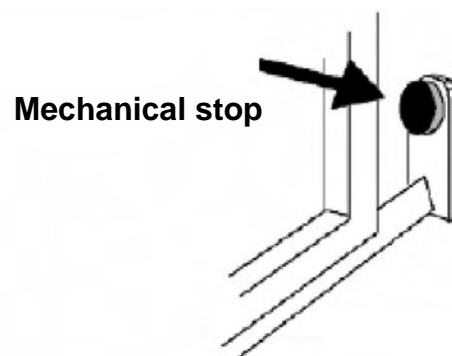
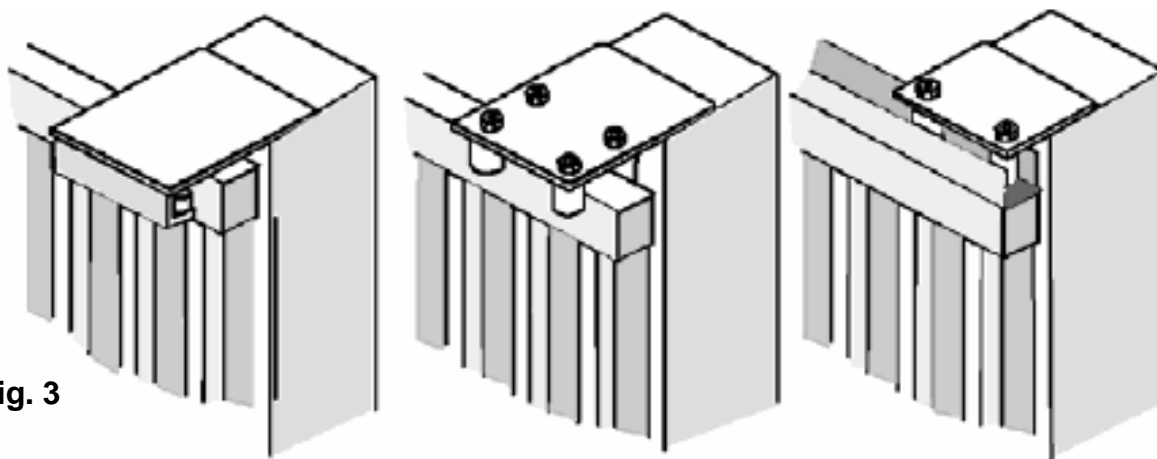

Fig. 2
Fig. 3
- Also check that the runner on the ground (**Fig. 1**) is not deformed, is perfectly level and that the mechanical stop is present on opening (**Fig. 2**) in order to **prevent** the gate from going beyond the upper runners (**Fig. 3**)
- Check the upper runner (**see Fig. 3**) is firm and the gate slides freely.
Fasten the rack to the gate firmly, leaving a distance of between 2 and 3 mm from the motor pinion **(Fig.2).**
Fasten the limit stop plates (Cams **G**) of the motor on the rack, **(Fig. 3)**